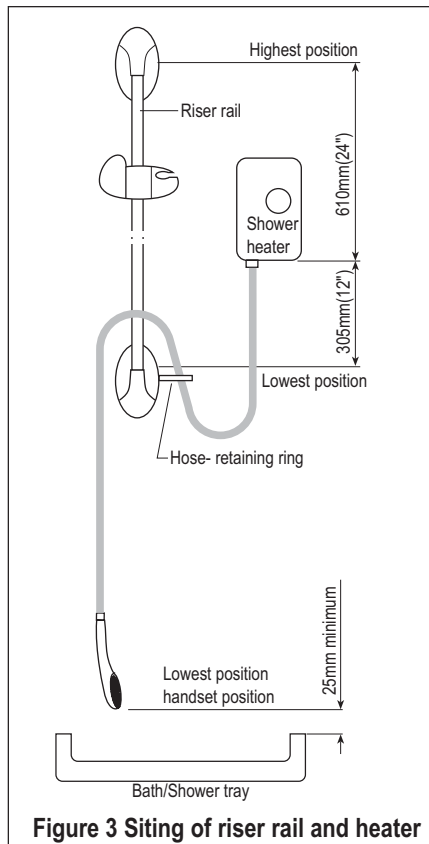

Figure 3 Siting of riser rail and heater
highest parked position, the handset is not more than 610mm above the bottom of the heater and in its lowest position it is no lower than 305mm -see Fig. 3.
1. Install a hose-restraining ring - see Fig.3.